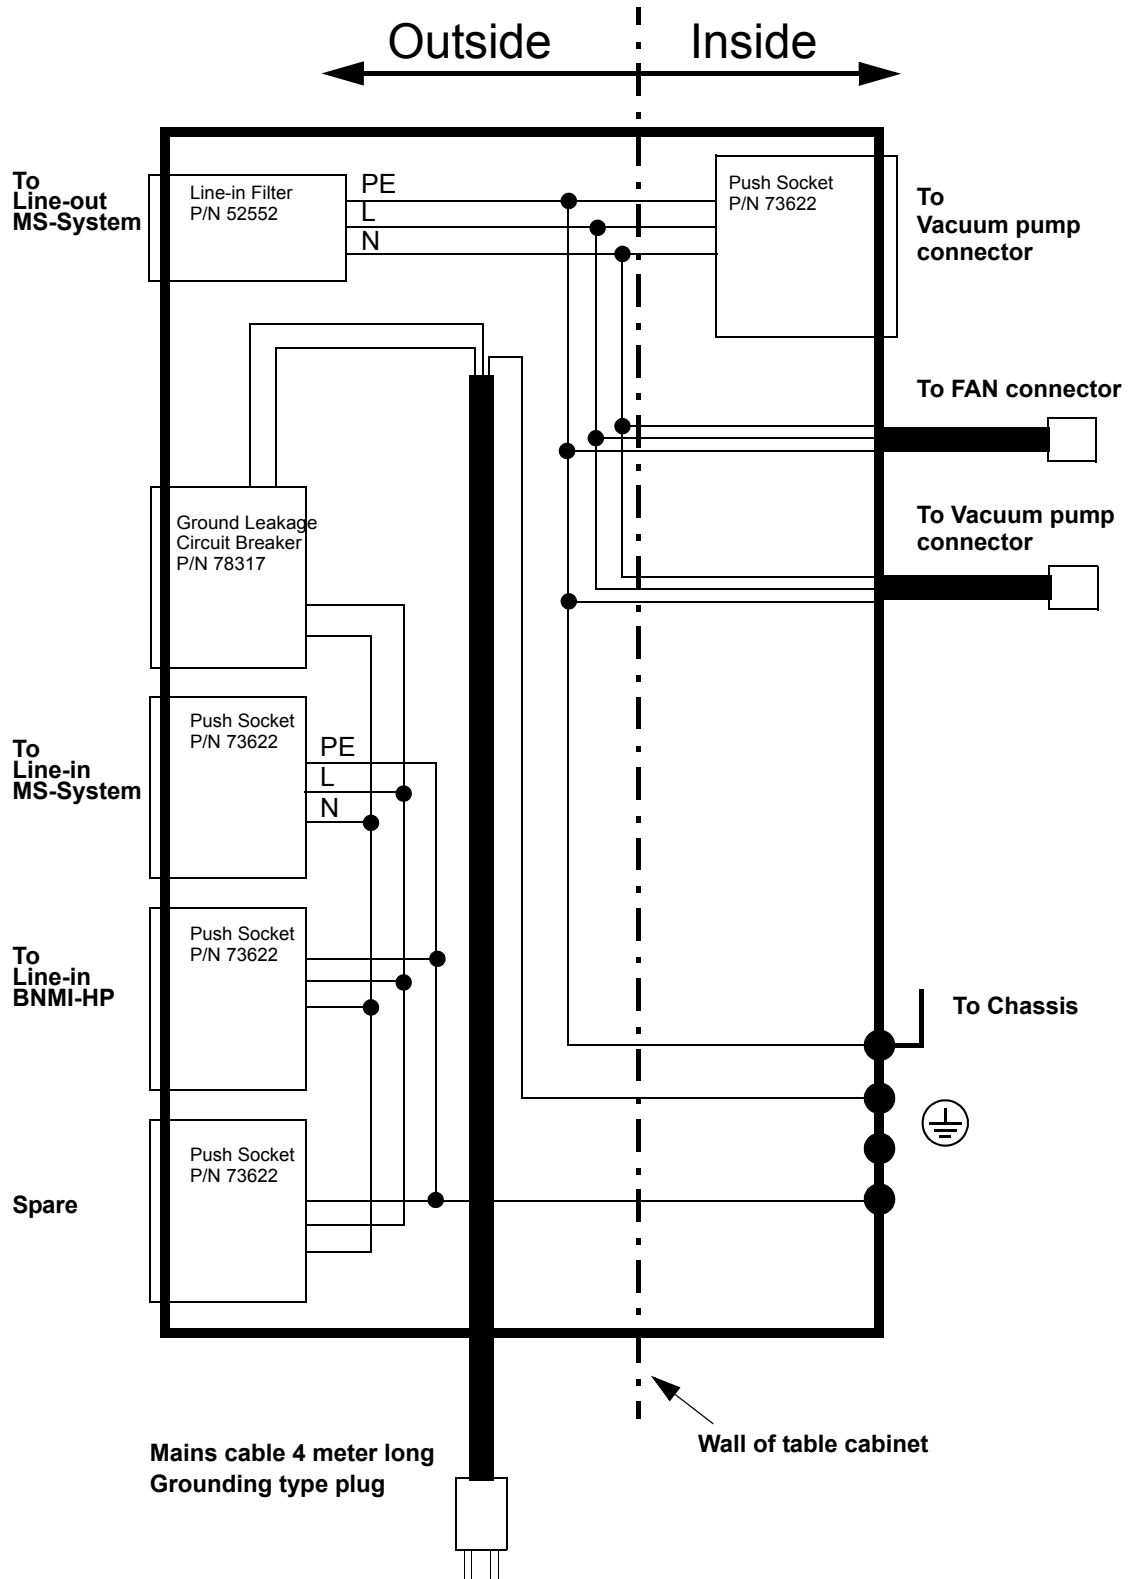

Figure 5.4. Distribution Box Wiring
13. Make the following external connections (refer to **Figure 5.4.**)